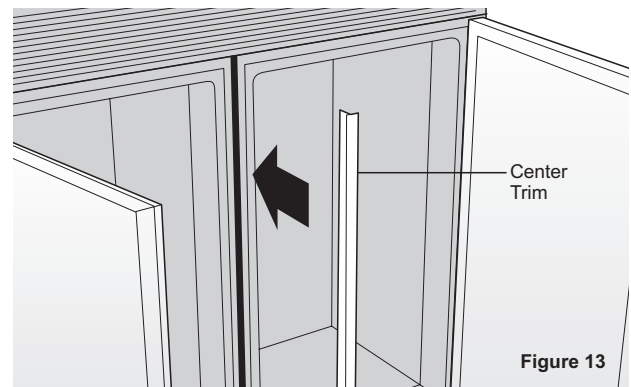

Figure 13
8. Recheck the level of each unit. Depending on the flatness of your floor, you may need to remove each unit and readjust several times before achieving an acceptable state of levelness and alignment. Allow 3/8" gap between units for center trim (G). See Figure 13.
10. Install the magnetic center trim piece (G) in the gap between both units. See Figure 13. Trim piece should be flush with tops of units and fit snugly on top of toe grille.